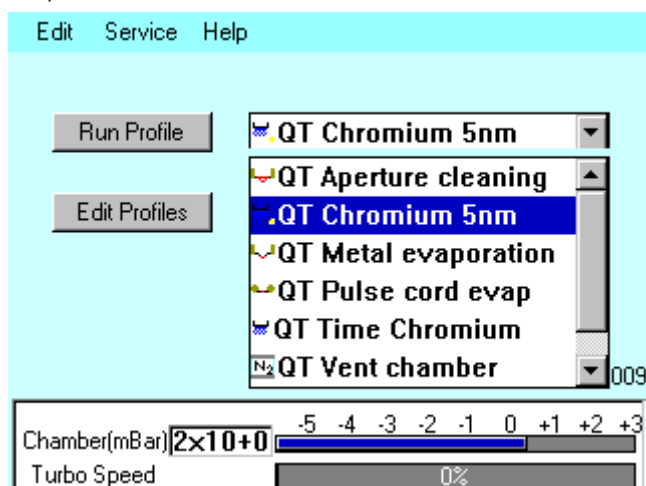

Figure 3-2. Selecting a profile
3. Tap on the down arrow button to open the dropdown list of profiles (see **Figure 3-2**).